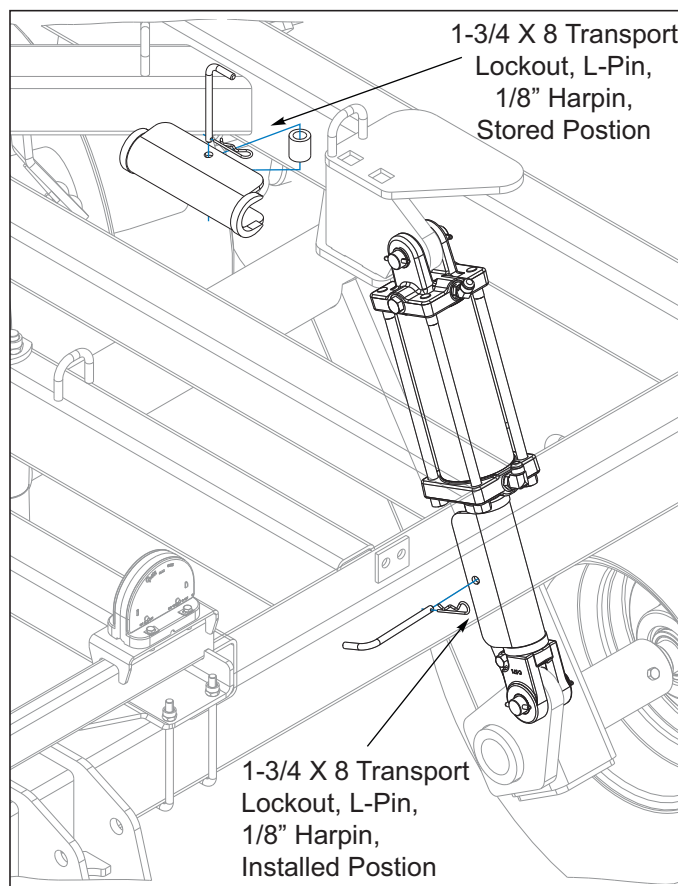

Figure 4-11: Installed Transport Locks
10. Remove the transport locks from stored position and install on both lift cylinders. Do not depend solely on implement hydraulics for transport *See Figure 4-11*.